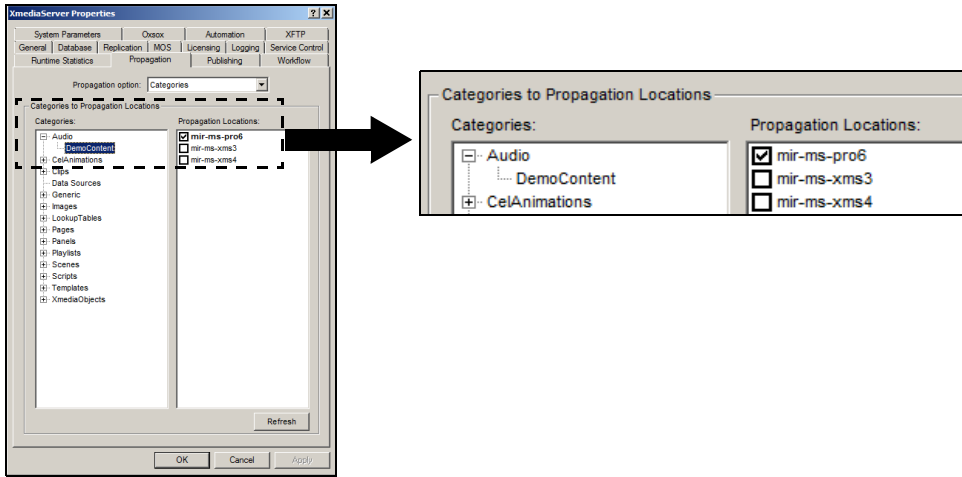

Figure 17-6. Creating propagable categories and associating them to recipient servers
5. In the **PROPAGATION LOCATIONS** column, select the check box for the recipient server(s) that you wish to propagate this category to (figure 17-6). You can choose to propagate to one, multiple, or no spokes.